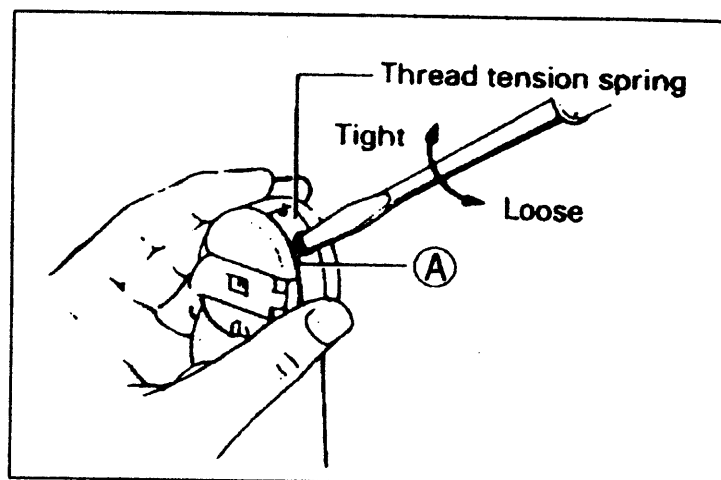

Fig.8
3) Tension of the lower thread (Fig.8)